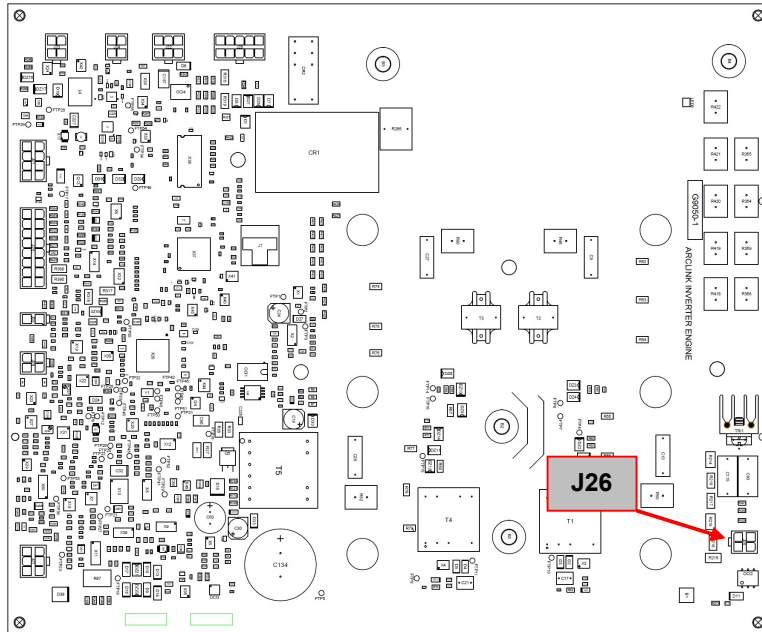

Figure 9 – Switch board J26 location
3. Locate the plug **J26** on the switch board and unplug it. See **Figure 9**.